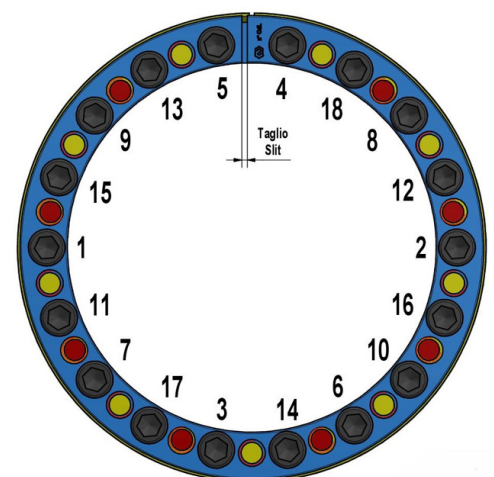

Fig. 3
4. Tighten the screws by hand in a crosswise pattern, starting with a screw located at 90° approx. respect to slit in the front thrust ring (fig. 3), until fitting clearances with shaft and hub bore are bridged and connected components are slightly locked, while making sure that hub is aligned as required using a dial indicator. **Better centering of hub from the beginning of installation is essential for better centering when installation is completed.**
5. Use a torque wrench set approx. 5% higher than specified tightening torque (Ma), or reduced within admissible value. **Progressively tighten the screws in a crosswise pattern (fig. 3), using approx. ¼ turns for several passes** until ¼ turns can no longer be achieved. Start with a screw located at 90° approx. respect to slit; screws adjacent to slit shall be tightened in a row.